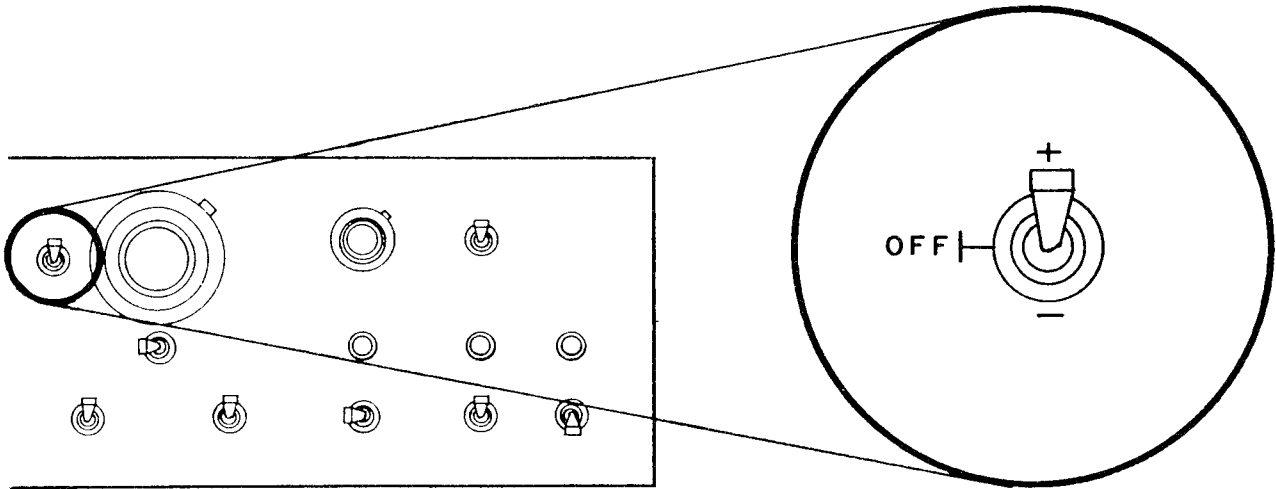

Figure 8. Polarity Switch in “+” Position
h. Flip the polarity switch to the “+” position (see Figure 8).